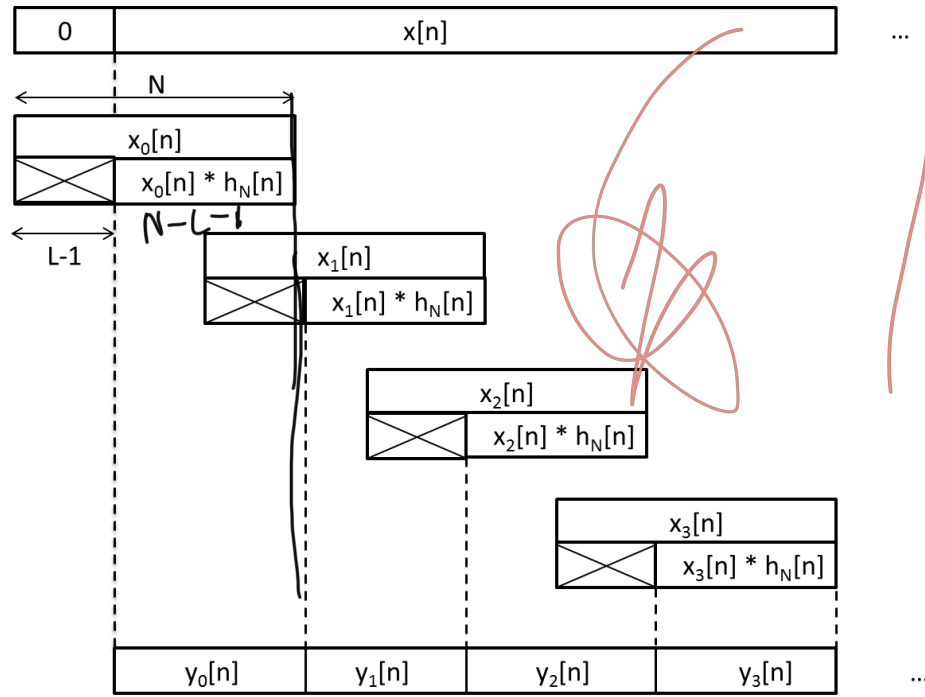

Figure 1: Illustration of overlap-save method
- This is also illustrated in Figure 1.